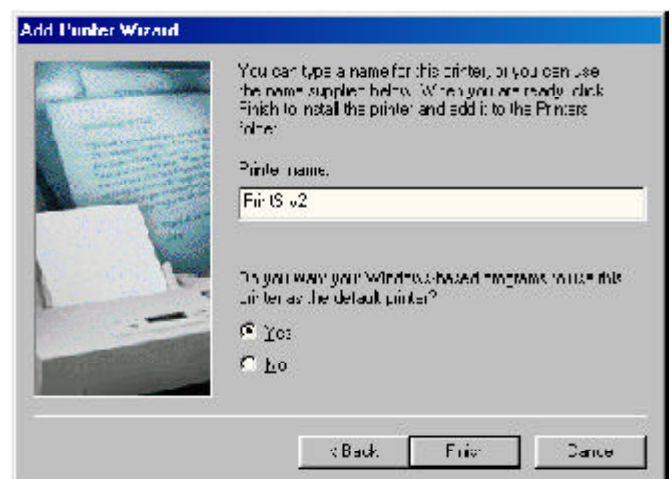

Fig. 4.17
Step 23 Type in a name for your printer, select if you want to set it as the default printer, and click **Finish**. See Fig. 4.17